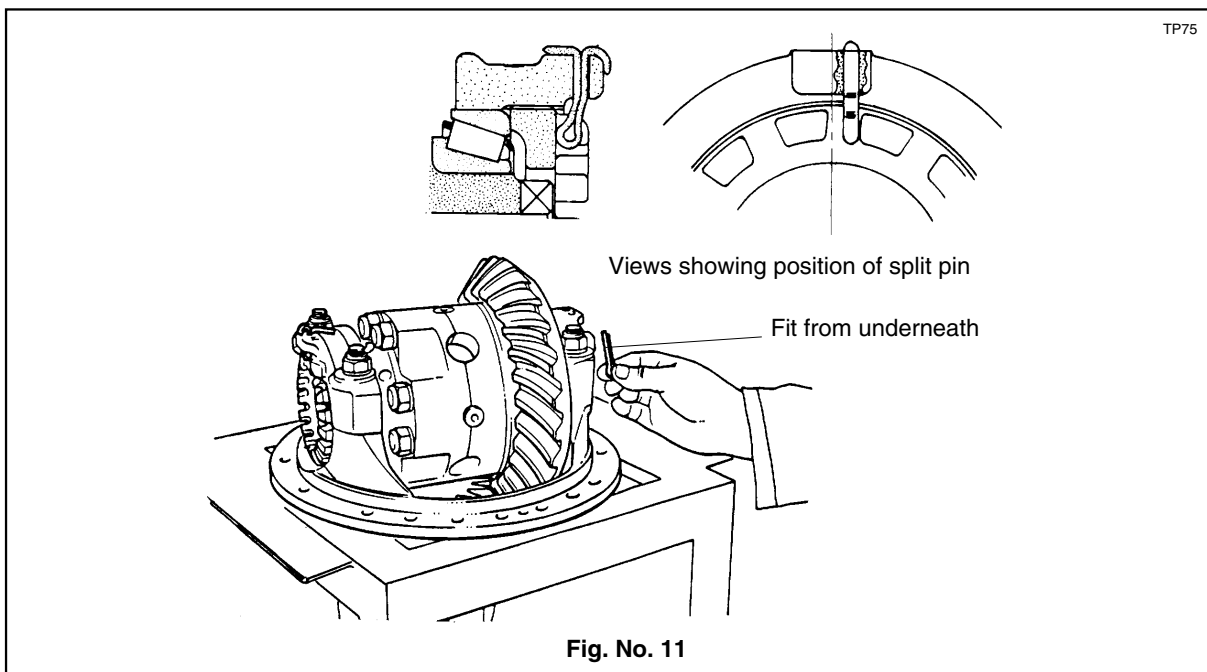

Fig. No. 11
- 16.5 Fit diff. adjusting nut split pins (46) as shown in fig. no. 11.